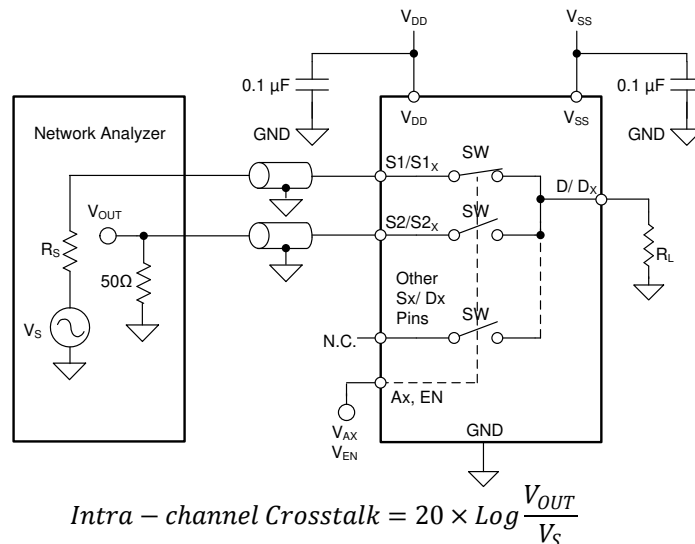

图 8-9. Intra-channel Crosstalk Measurement Setup
1. Intra-channel crosstalk ( $X_{TALK(INTRA)}$ ): the voltage at the source pin ( $S_x$ ) of an off-switch input when a signal is applied at the source pin of an on-switch input in the same channel, as shown in 图 8-9 .